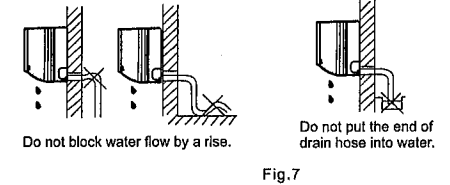

Fig. 7
1. Run the drain hose sloping downward. Do not install the drain hose as illustrated in Fig. 7.